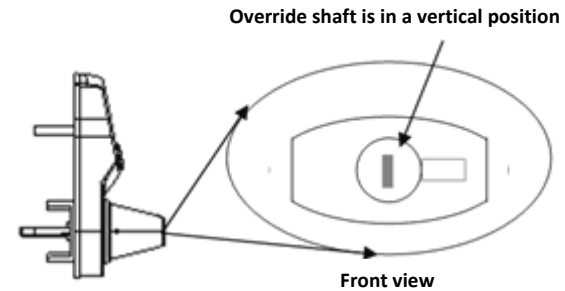

Figure 7
- Make sure the override shaft inside the center hub is in a vertical position. (Figure 7) Use a flat-bladed screwdriver to turn the shaft if necessary.